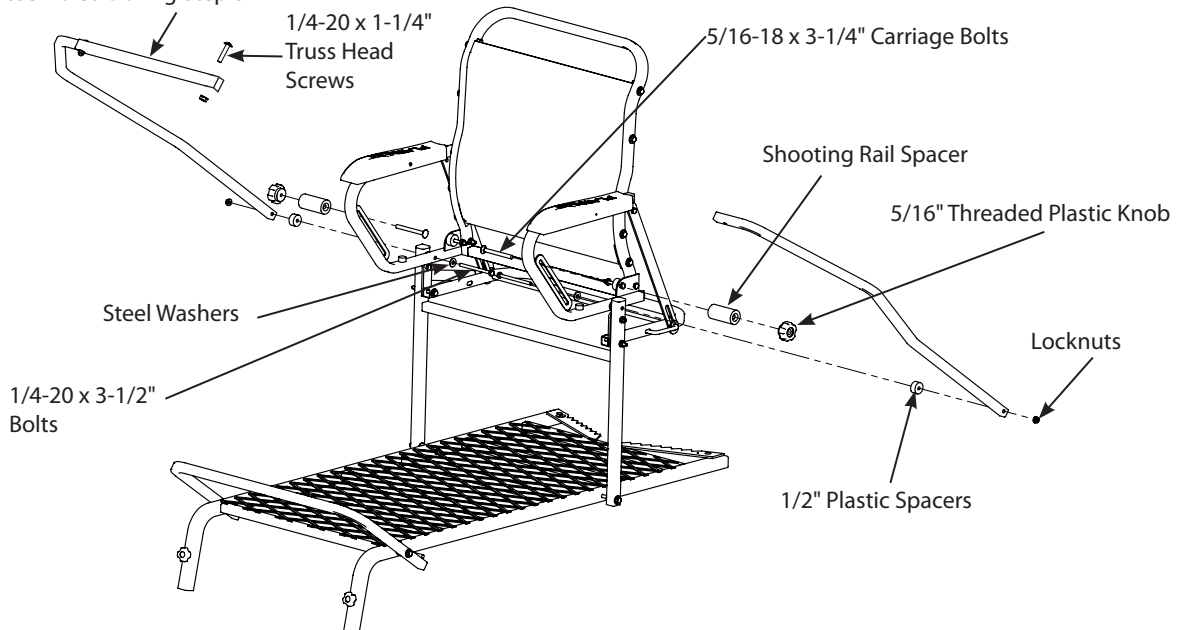

Figure 9
9. Attach both the shooting flared rail from step 8 and the separate shooting flared rail to the H-frame using (2) provided 1/4-20 x 3-1/2" bolts (already attached), (1) 1/4-20 x 1-1/4" truss head screw, steel washers, 1/2" plastic spacers, locknuts. **SEE FIGURE 9.**
10. Attach the shooting rail rests (14285) to the left and right armrest assembly slotted flatbar using (2) provided 5/16-18 x 3-1/4" carriage bolts and 5/16" threaded plastic knobs (48406). **SEE FIGURE 9.**